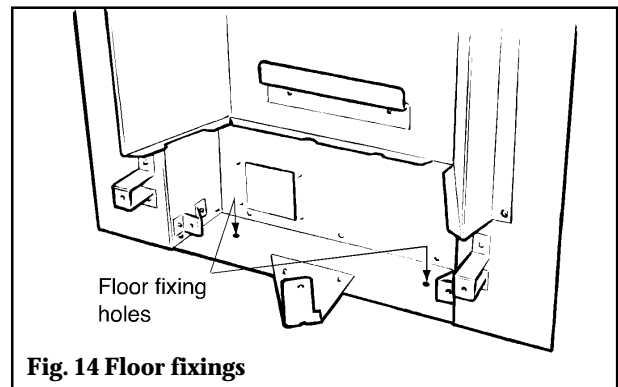

Fig. 14 Floor fixings
7.2.9 Drill a hole into the fireplace floor through each of the two holes in the base of the convection box using a no.12 masonry drill (see figure 14).